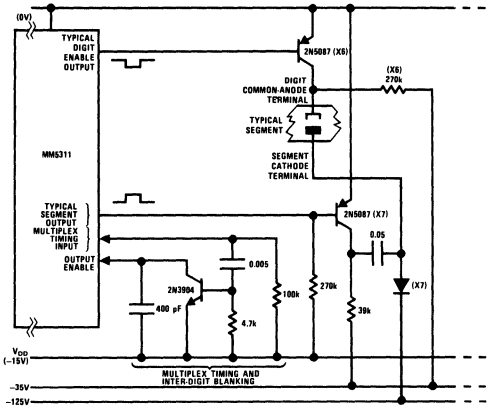

FIGURE 9. Interfacing Panplex II\* Neon Display Tube
**Output Circuits:** Figure 5-A illustrates the circuit used for the BCD and 7-segment outputs. Figure 5-B shows the digit enable output circuit. Figure 6 illustrates interfacing these outputs to standard and low-power TTL. Figures 7 and 8 illustrate methods of interfacing these outputs to common-anode and common-cathode LED displays, respectively. A method of interfacing these clocks to gas-discharge display tubes is shown in Figure 9. When driving gas-discharge displays which enclose more than one digit in a common gas envelope, it is necessary to inhibit the segment drive voltage(s) during inter-digit transitions. Figure 9 also illustrates a method of generating a voltage for application to the output enable input to accomplish the required inter-digit blanking.